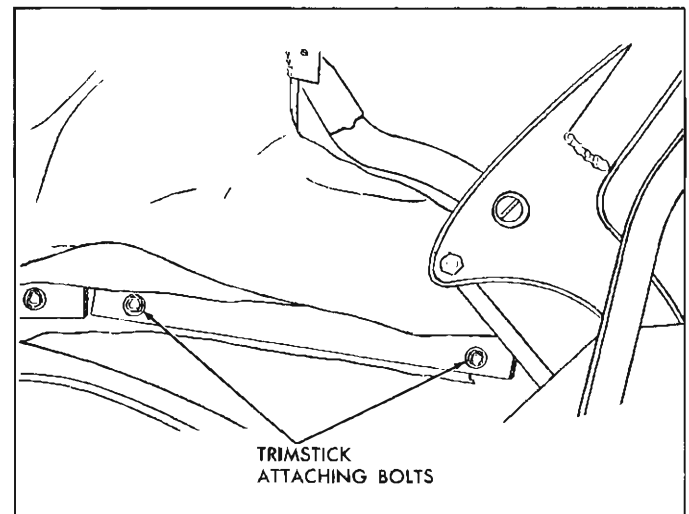

Fig. 56—Rear Quarter Trimstick
6. At each rear quarter area remove attaching bolts and washer securing rear quarter trim stick assembly to rear quarter inner panel (fig. 56).